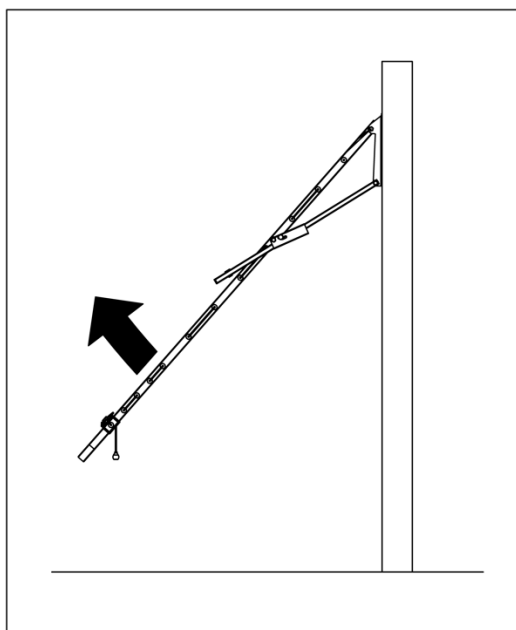

Fig 10. To Extend.
- Using both hands grab the front bar in the centre and lift upward. (Fig 10)